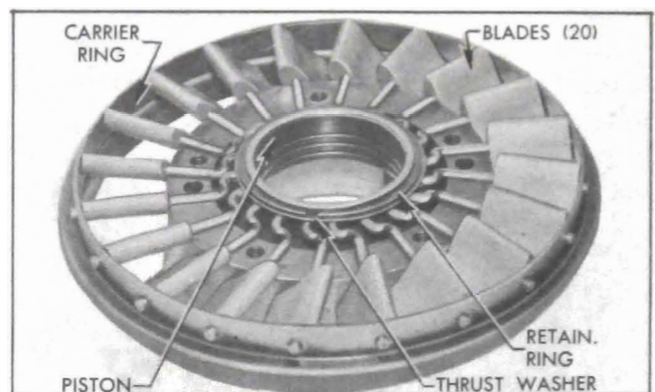

Figure 5-45—Front Side of Stator, with Carrier Removed
4. Remove retaining ring and thrust washer from hub of stator piston, then remove stator blade carrier ring and all stator blades from rear carrier. See figure 5-45.
3. With stator blade carrier ring resting on bench with holes upward, insert stator blades with concave sides upward and cranks toward center of ring. Blades should be in the nearly closed position, as shown in figure 5-45.
4. Carefully place the carrier ring with blades in position on the rear carrier so that all cranks engage the grooves in carrier. See figure 5-45.
5. Install thrust washer over cranks and install retaining ring in groove of piston hub. See figure 5-45.